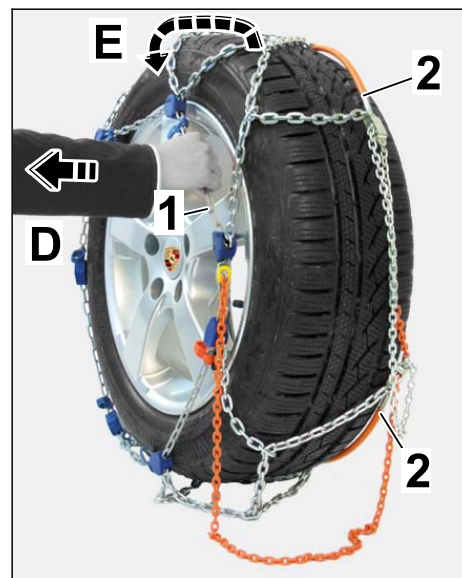

Figure 18
3.3.5 Hold the chain net above the centre of the axle and pull it away from the wheel (⇒ *Figure 18-D*).
End of spring steel clip is rubbing slightly on the tire running surface (⇒ *Figure 18-E*).